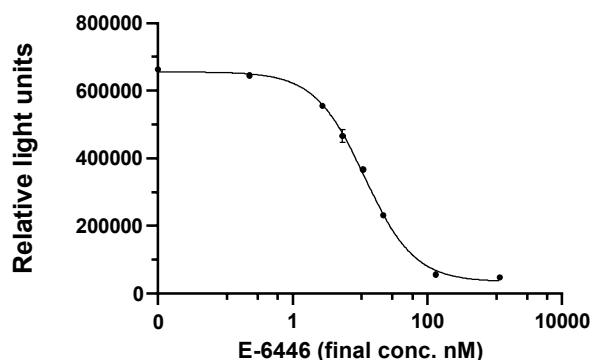

Figure 1. Example of TLR9 inhibitory curve.
The *iLite*® TLR9 Assay Ready Cells are engineered cells optimized to express Firefly luciferase under the control of an NF- $\kappa$ B responsive promoter. Binding of DNA with unmethylated CpG motif to the Toll-like Receptor 9 results in activation of the NF- $\kappa$ B responsive Firefly luciferase reporter gene construct. The *iLite*® TLR9 Assay Ready Cells also contain the Renilla Luciferase (RL) reporter gene, under the control of a constitutive promoter. The constitutive expression of RL allows normalization of CpG motif induced FL activity and renders assay results independent of variations in cell number or serum matrix effects. The luciferase signal can be measured in a luminometer following the addition and incubation of the luciferase substrate. The Firefly luciferase signal is proportional to the activity induced by CpG oligonucleotides in the sample. In the presence of inhibitory activity against TLR9, the functional activity of the present CpG oligodeoxynucleotides is reduced, resulting in a decreased stimulation of Firefly luciferase expression (Fig.1). Thus, the Firefly luciferase signal is inversely proportional to the amount of inhibitory activity against TLR9 in a sample. The *iLite*® TLR9 Assay Ready Cells can therefore be utilized for quantification of TLR9 inhibitor activity in test samples also when the samples contains human serum.